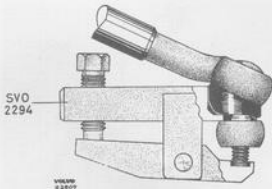

Fig. 2-21. Removing steering rod
3. Remove the lower nuts for the engine mountings. Remove the steering rods from the pitman arm and relay arm with tool 2294 according to Fig. 2-21.